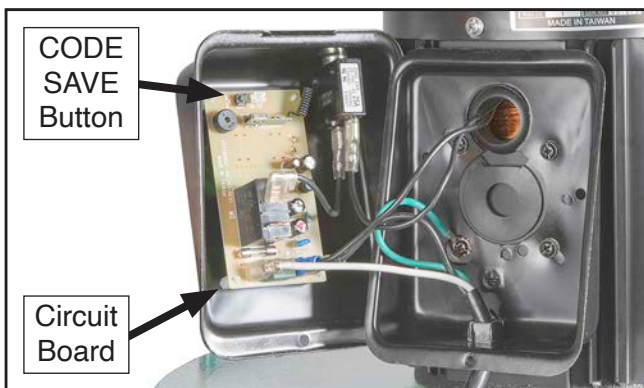

Figure 50. Location of circuit board and CODE SAVE button.
2. Press and hold CODE SAVE button (see **Figure 50**) on circuit board with wooden dowel until it beeps once.